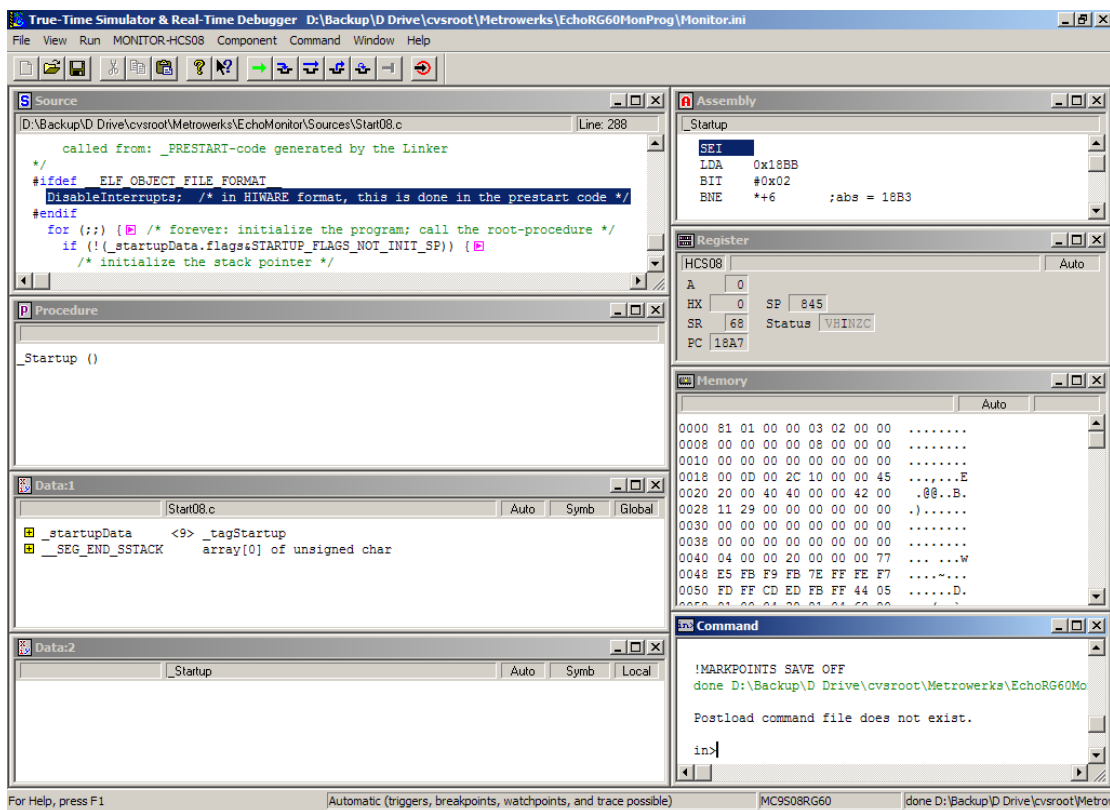

Figure 3. CodeWarrior Debugger After Successful Programming
11. If the MCU's Flash memory is blank, the Echo monitor will be programmed into memory. You should see screen shot shown in Figure 3 when programming completes. Skip to step 15.
14. The debugger will program the monitor into the MCU's Flash memory. You should see the screen shot shown in Figure 3 when programming completes.